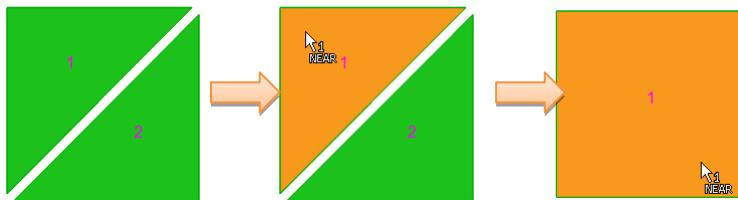

Figure 7-9 Shows how to merge two triangles into a quad.
5. When the next target is a triangle element, Manipulate Triangle will try to merge with it as shown in Figure 7-9.